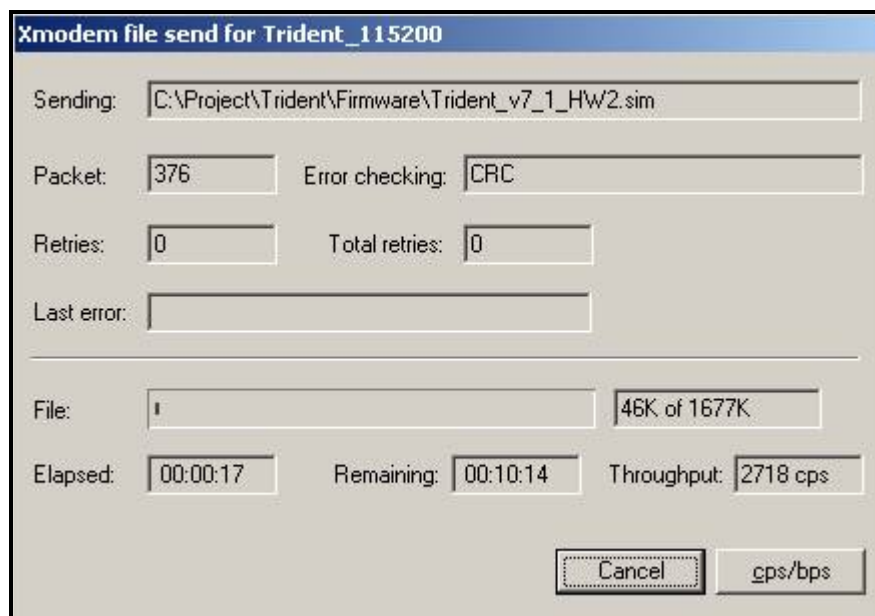
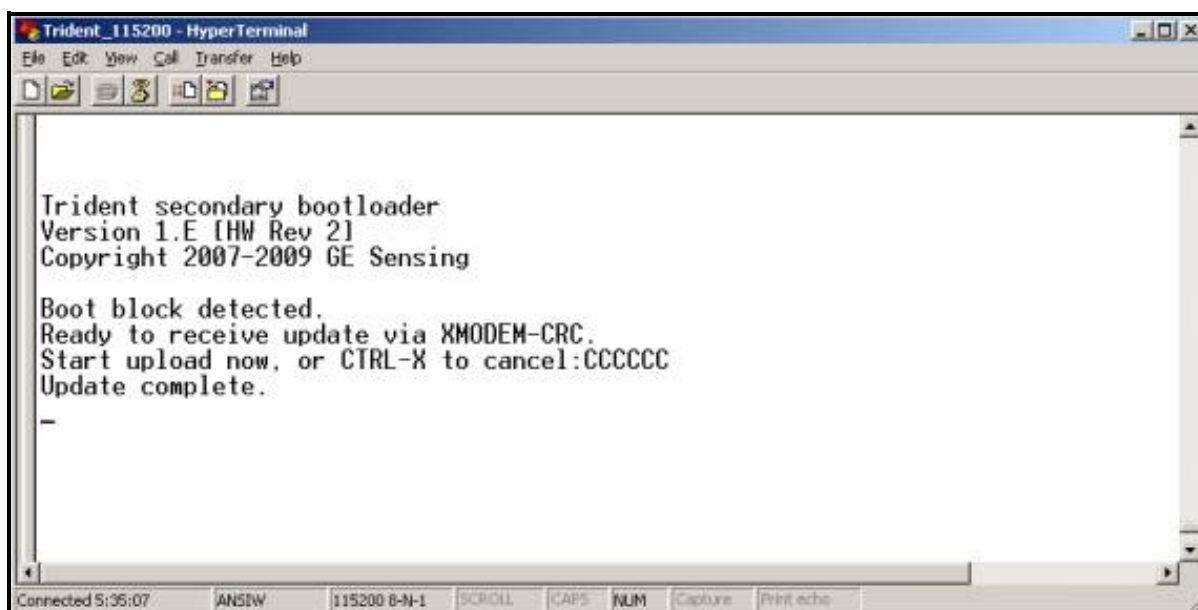

Figure 42: Sentinel LCT Transfer Status Window
Figure 43: PC Transfer Status Window
- In Hyperterminal, select *Transfer*, and then *Send File*. (The protocol should be Xmodem.) Use *Browse* to locate the file, which will have a .sim extension. Double click on this file and click the *Send* button. The screens on the Sentinel LCT (Figure 42) and on Hyperterminal (Figure 43) should both display the status of the transfer.